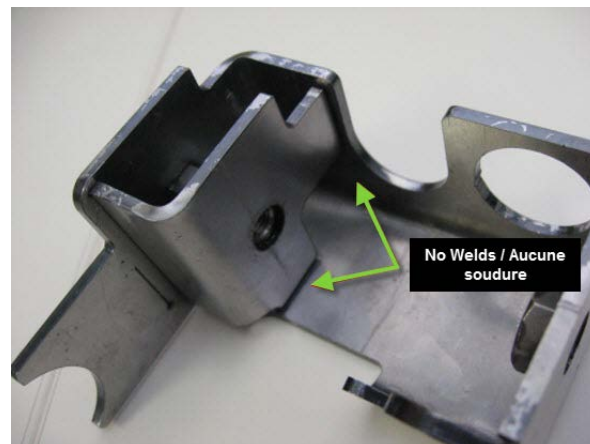

Fig.3
3. If the inspection reveals that *both* welds are missing, like shown in fig.3, a reinforcing block will have to be added to the bracket.